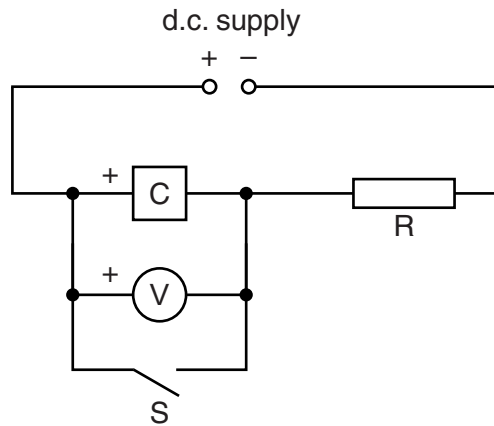

Fig. 1.1
- (a)** The positive terminals of C and the d.c. supply are already connected. Complete the circuit shown in Fig. 1.1, making sure that the positive terminals are connected as indicated on the diagram.